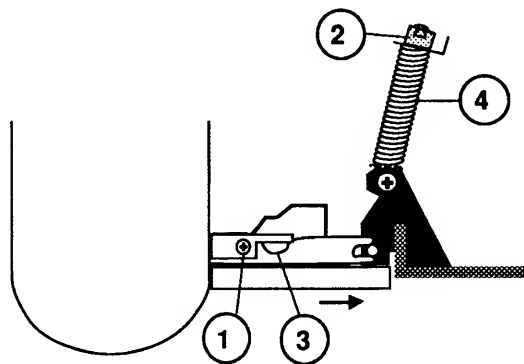

FIGURE 68
2. Remove the two Phillips screws (Figure 68, #1) that secure the left and right hinge guards to the hinges.
3. Lift the top cover assembly far enough to disengage the left and right slide blocks (Figure 68, #2) from their hinges. The tabs on the sliding block have to align with the slots (Figure 68, #3) in the hinge arm before you can slide the hinge mount and spring (Figure 68, #4) from the arm.